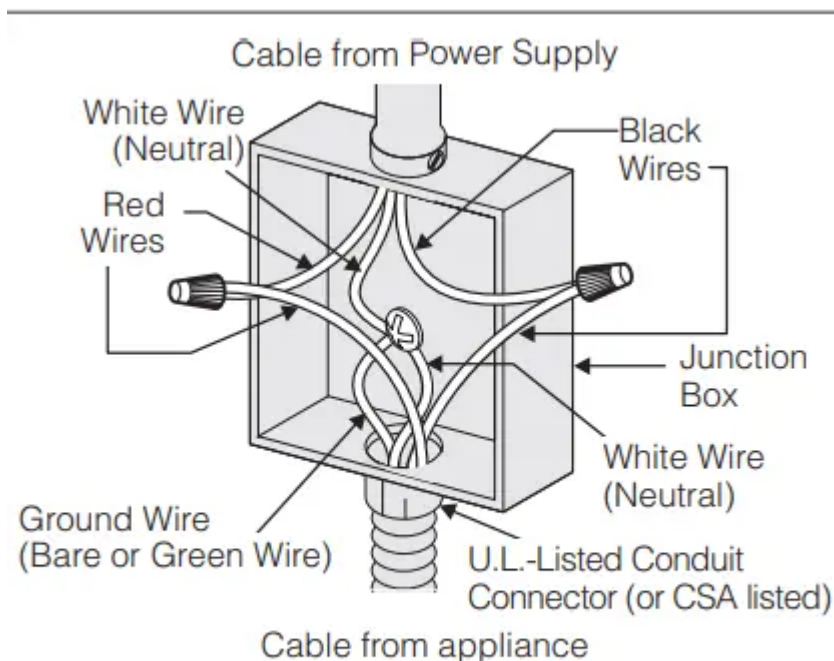

Figure 5
Where local codes permit connecting the appliance-grounding conductor (wire) to the neutral (white) wire (see figure 5):
2. In the circuit breaker, fuse box or junction box, connect appliance and power supply cable wires as shown in figure 5.
to be connected to a 3 wire grounded junction box (US only), where local code permit connecting the appliance-grounding conductor to the neutral (white) see Figure 5.